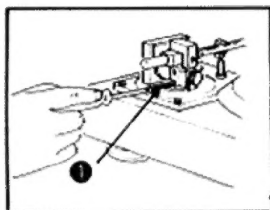

Fig. 1
### 1. Unpacking and setting up (Figs. 1, 2, 3, 4)
2. Unscrew 7 shipping screws ( ① - ⑦ ) off as shown in Fig. 1 & 3.